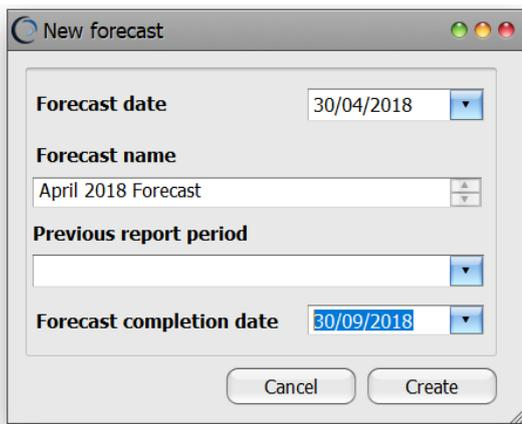

Figure 103 New forecast dialog
2. The New Forecast dialog will appear. As this is the first report period leave the 'Previous Report Period' drop down blank but be sure to enter the Forecast Completion Date of 30/9/18. Click *Create* (Figure 103).